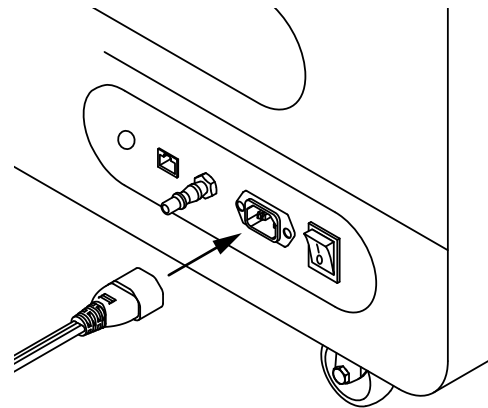

Fig. 5.1 Connecting the power cable to the power socket.
1. Connect the printer to power (fig. 5.1).